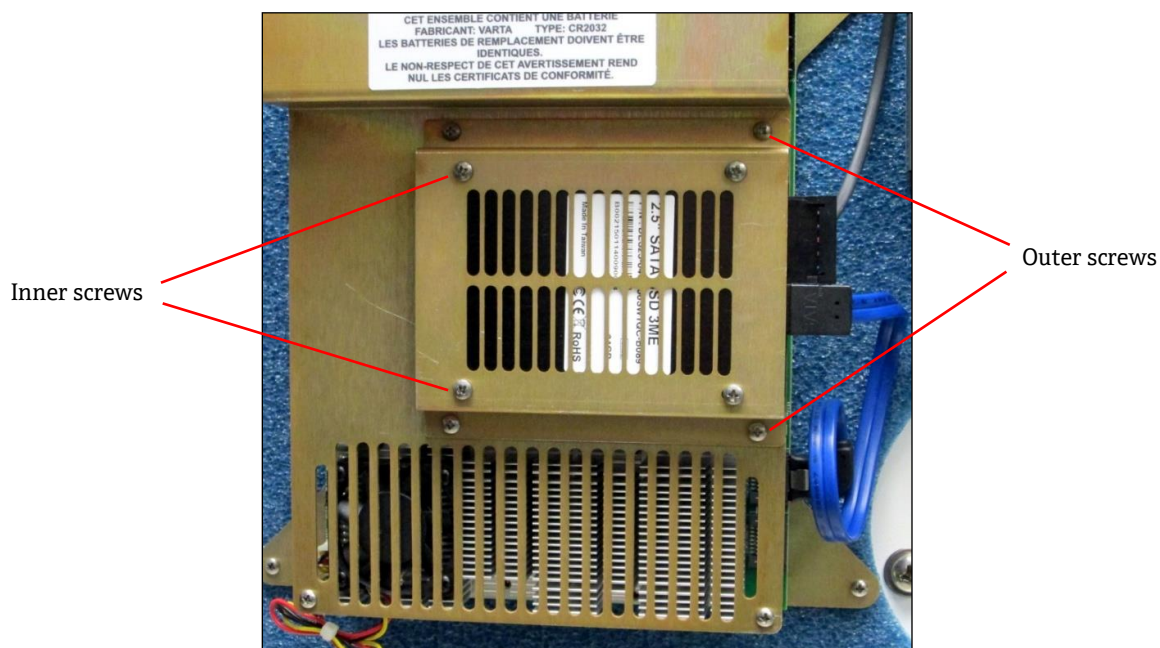

Figure 143. Remove outer and inner screws
- Remove the four (4) outer screws to remove the hard drive from the computer (Figure 143).
- Remove the four (4) inner screws to remove the hard drive from the sheet metal (Figure 143).